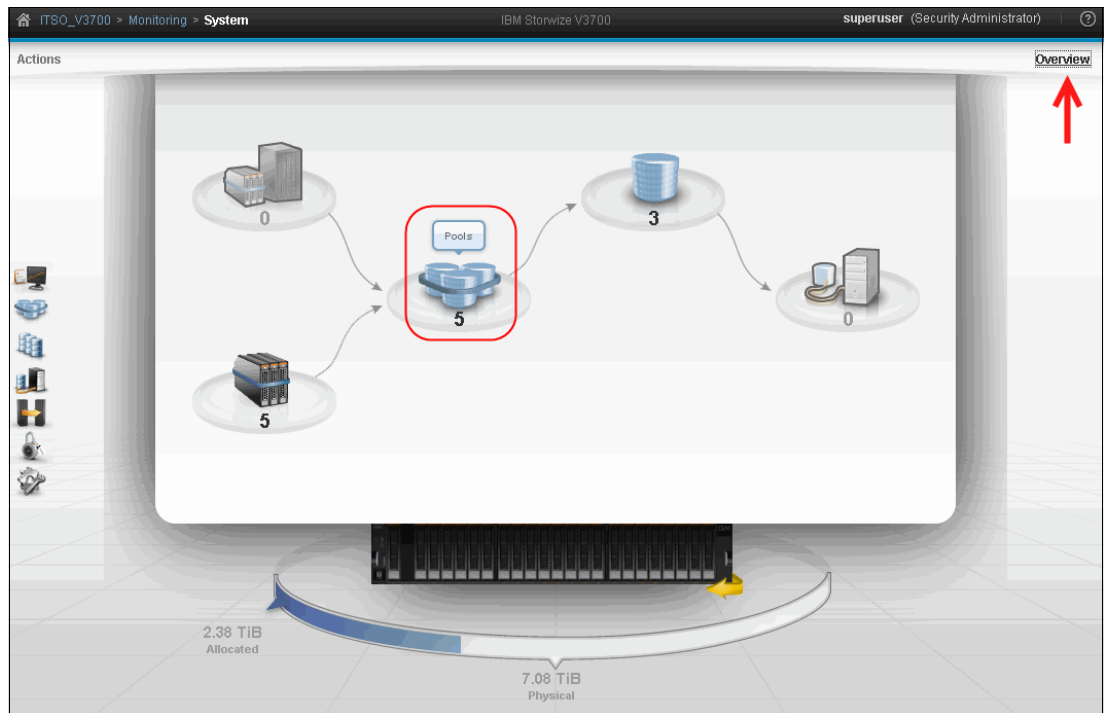

Figure 7-57 Pools from the overview window
1. You can access the MDisks by Pools window by clicking the upper right option **Overview** → **Pools**, as shown in Figure 7-57.